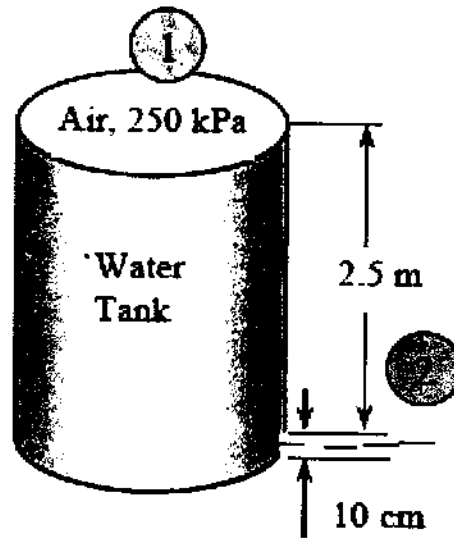

FIGURE Q1 (c)
- (c) A pressurized tank of water has a 10 cm diameter orifice at the bottom, where water discharges to the atmosphere. The water level is 2.5 m above the outlet. The tank air pressure above the water level is 250 kPa (absolute) while the atmospheric pressure is 100 kPa. Neglecting frictional effects, determine the initial discharge rate of water from the tank. Refer to **FIGURE Q1 (c)**.